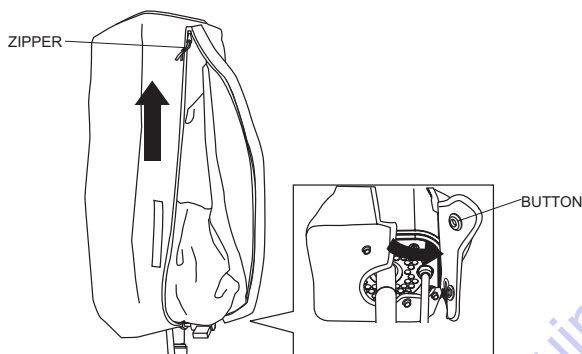

Figure 16. Unzipping Balloon Cover
2. Unsnap the three buttons on the bottom of the balloon cover and unzip the cover. See Figure 16.